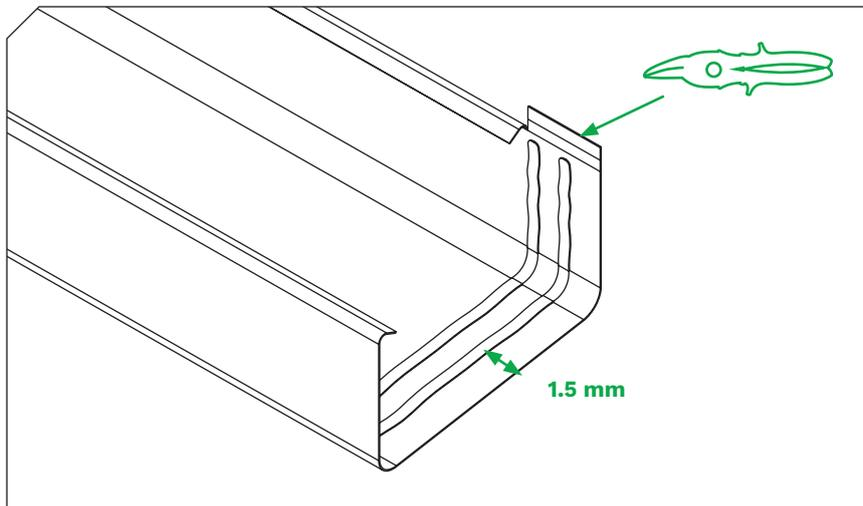

Figure 8
- 3.2. Notch and fold the rear gutter drip in the area you are planning to connect (35 mm from the end) (**Figure 8**) and insert the gutter into the brackets.
Cover the inside surface of the gutter with the sealing glue - about 1.5 cm from the end of the gutter (**Figure 8**)